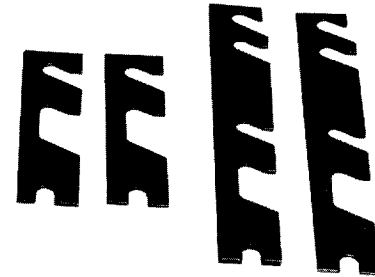

Fig. 43 Track Shims
- (a) Using track width gauge, (Fig. 42) adjust width of tracks using shims (Fig. 43).